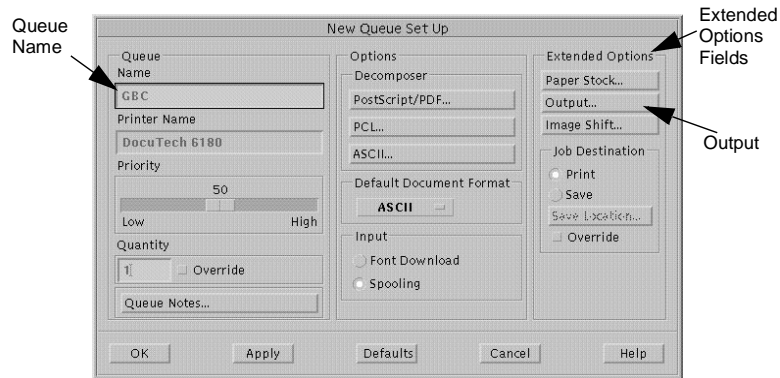

Figure 6-26 The New Queue Setup Window
The New Queue Setup Window will display, as shown in Figure 6-26.
4. Go to the **Extended Options** field and select **Output**, as shown in Figure 6-26.